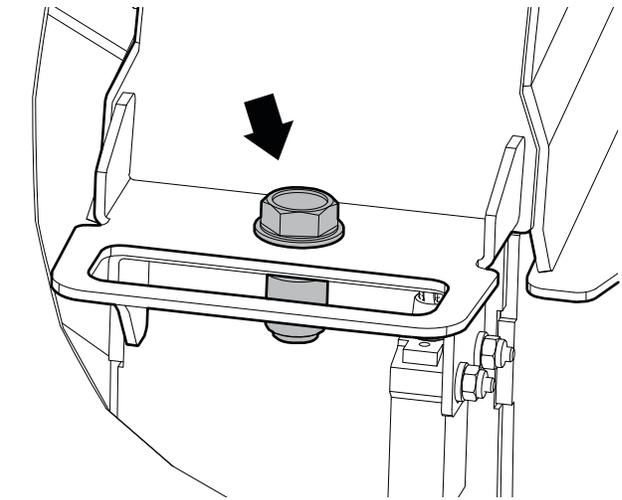

Figure 24—Upper-rotor-housing fastener
2. Remove the upper-rotor-housing fastener, and then open the upper rotor housing. See *Figure 24*.
9. Install the upper-rotor-housing fastener. See *Figure 24*.
2. Remove the upper-rotor-housing fastener. See *Figure 24 on page 39*.
5. Install the upper-rotor-housing fastener. See *Figure 24 on page 39*.